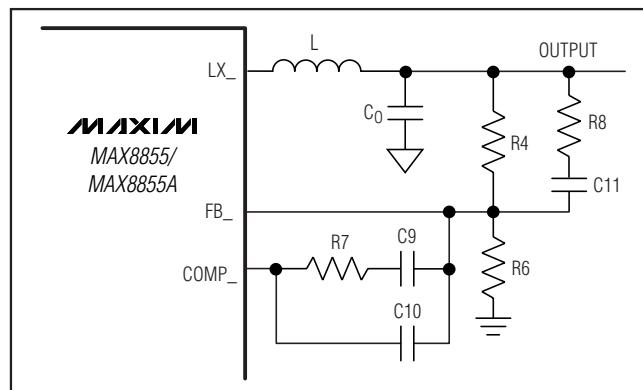

Figure 4. Type III Compensation Network
The output voltages for regulator 1 (with REFIN connected to SS1) and regulator 2 are set with a resistor voltage-divider connected from the output to FB— to GND as shown in Figure 4. Select a value for the resistor connected from output to FB— (R4 in Figure 4) between 2kΩ and 10kΩ. Use the following equations to find the value for the resistor connected from FB— to GND (R6 in Figure 4):
The high-switching-frequency range of the MAX8855/MAX8855A allows the use of ceramic output capacitors. Since the ESR of ceramic capacitors is typically very low, the frequency of the associated transfer-function zero is higher than the unity-gain crossover frequency,  $f_C$ , and the zero cannot be used to compensate for the double pole created by the output filtering inductor and capacitor. The double pole produces a gain drop of 40dB and a phase shift of  $180^\circ$  per decade. The error amplifier must compensate for this gain drop and phase shift to achieve a stable high-bandwidth closed-loop system. Therefore, use type III compensation as shown in Figure 4. Type III compensation possesses three poles and two zeros with the first pole,  $f_{P1\_EA}$ , located at 0Hz (DC). Locations of other poles and zeros of type III compensation are given by: